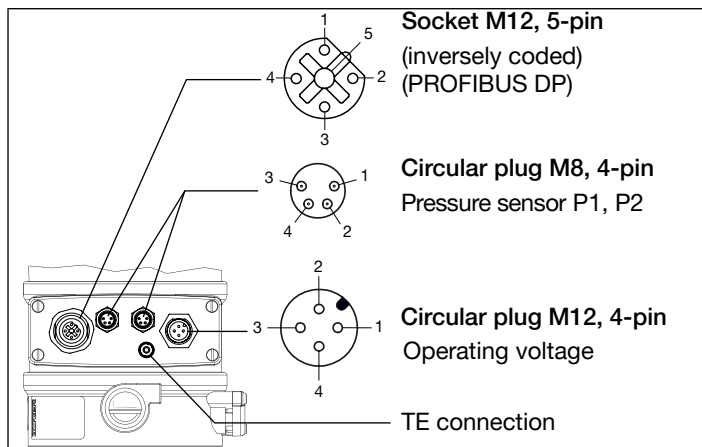

Fig. 13: Connection with PROFIBUS DP
→ Connect the process controller according to “Fig. 13” and “Tab. 10”, “Tab. 11”, “Tab. 12”.
The electrical connection module of Type 8693 features a set-screw with nut which is used to connect the Technical Earth (TE) (see “Fig. 13: Connection with PROFIBUS DP”).